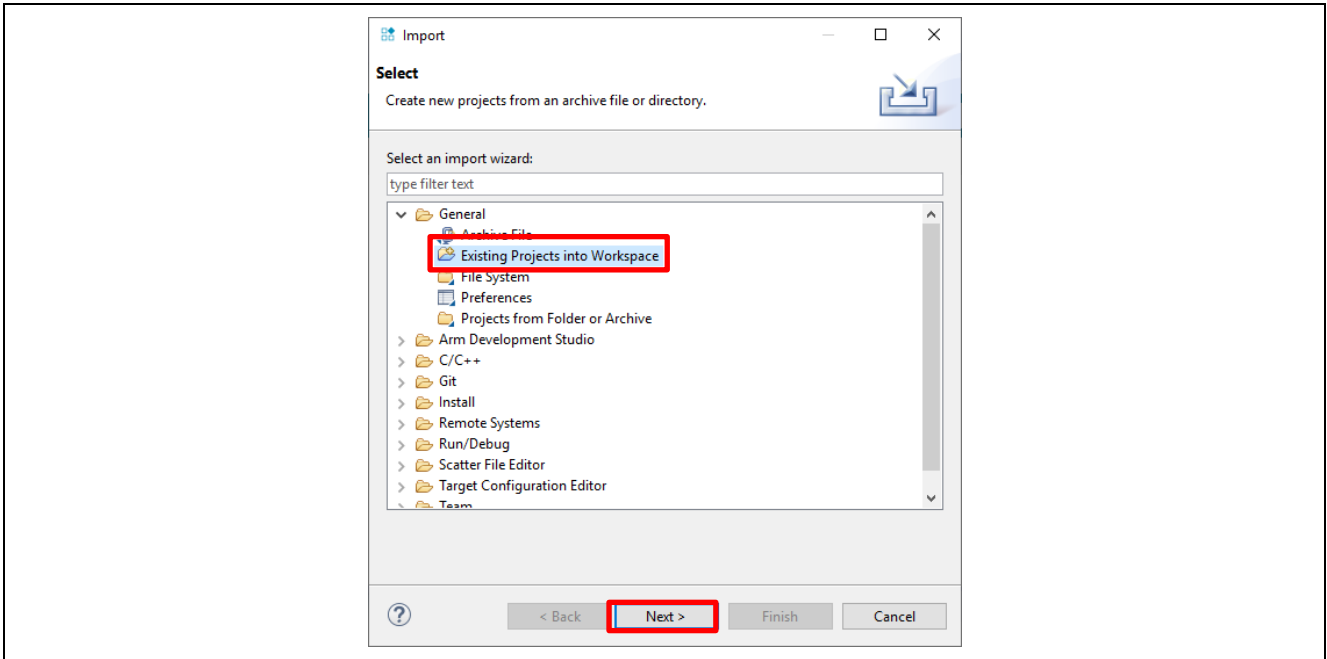

Figure 3-3 Menu of 'Import' window
- Under 'Import' window, select General > Existing Projects into Workspace and click 'Next'. This is shown in Figure 3-3.